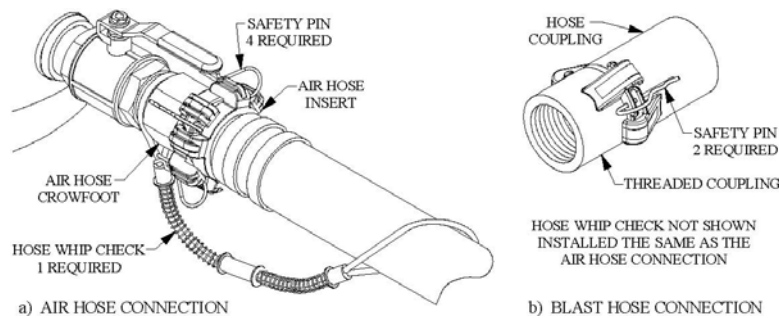

Figure 8.2 – Hose Connection Disconnect Protection
- 8.7. **Blast/Air Hose Couplings:** All air hose, blast hose, and threaded couplings have pin holes that align when connected. To protect against accidental hose disconnections safety pins must be installed through these holes. Each hose connection must also include a hose whip check that will hold the hose if there is an accidental disconnection. Connect one loop to each side of the connection and stretch out as shown in Figure 8.2 below. Check hose connections daily and replace missing or damaged pins and whip checks.